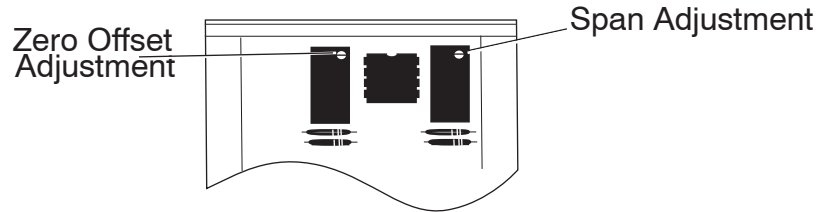

Figure-2 Calibration Adjustments.
4. Adjust the offset potentiometer to produce a 2 Vdc signal at the output. A clockwise rotation of the potentiometer screw will increase the output signal. See Figure-2.
6. Adjust the span adjustment to produce a 10 Vdc signal at the output. A clockwise rotation of the potentiometer screw will increase the output signal. See Figure-2.